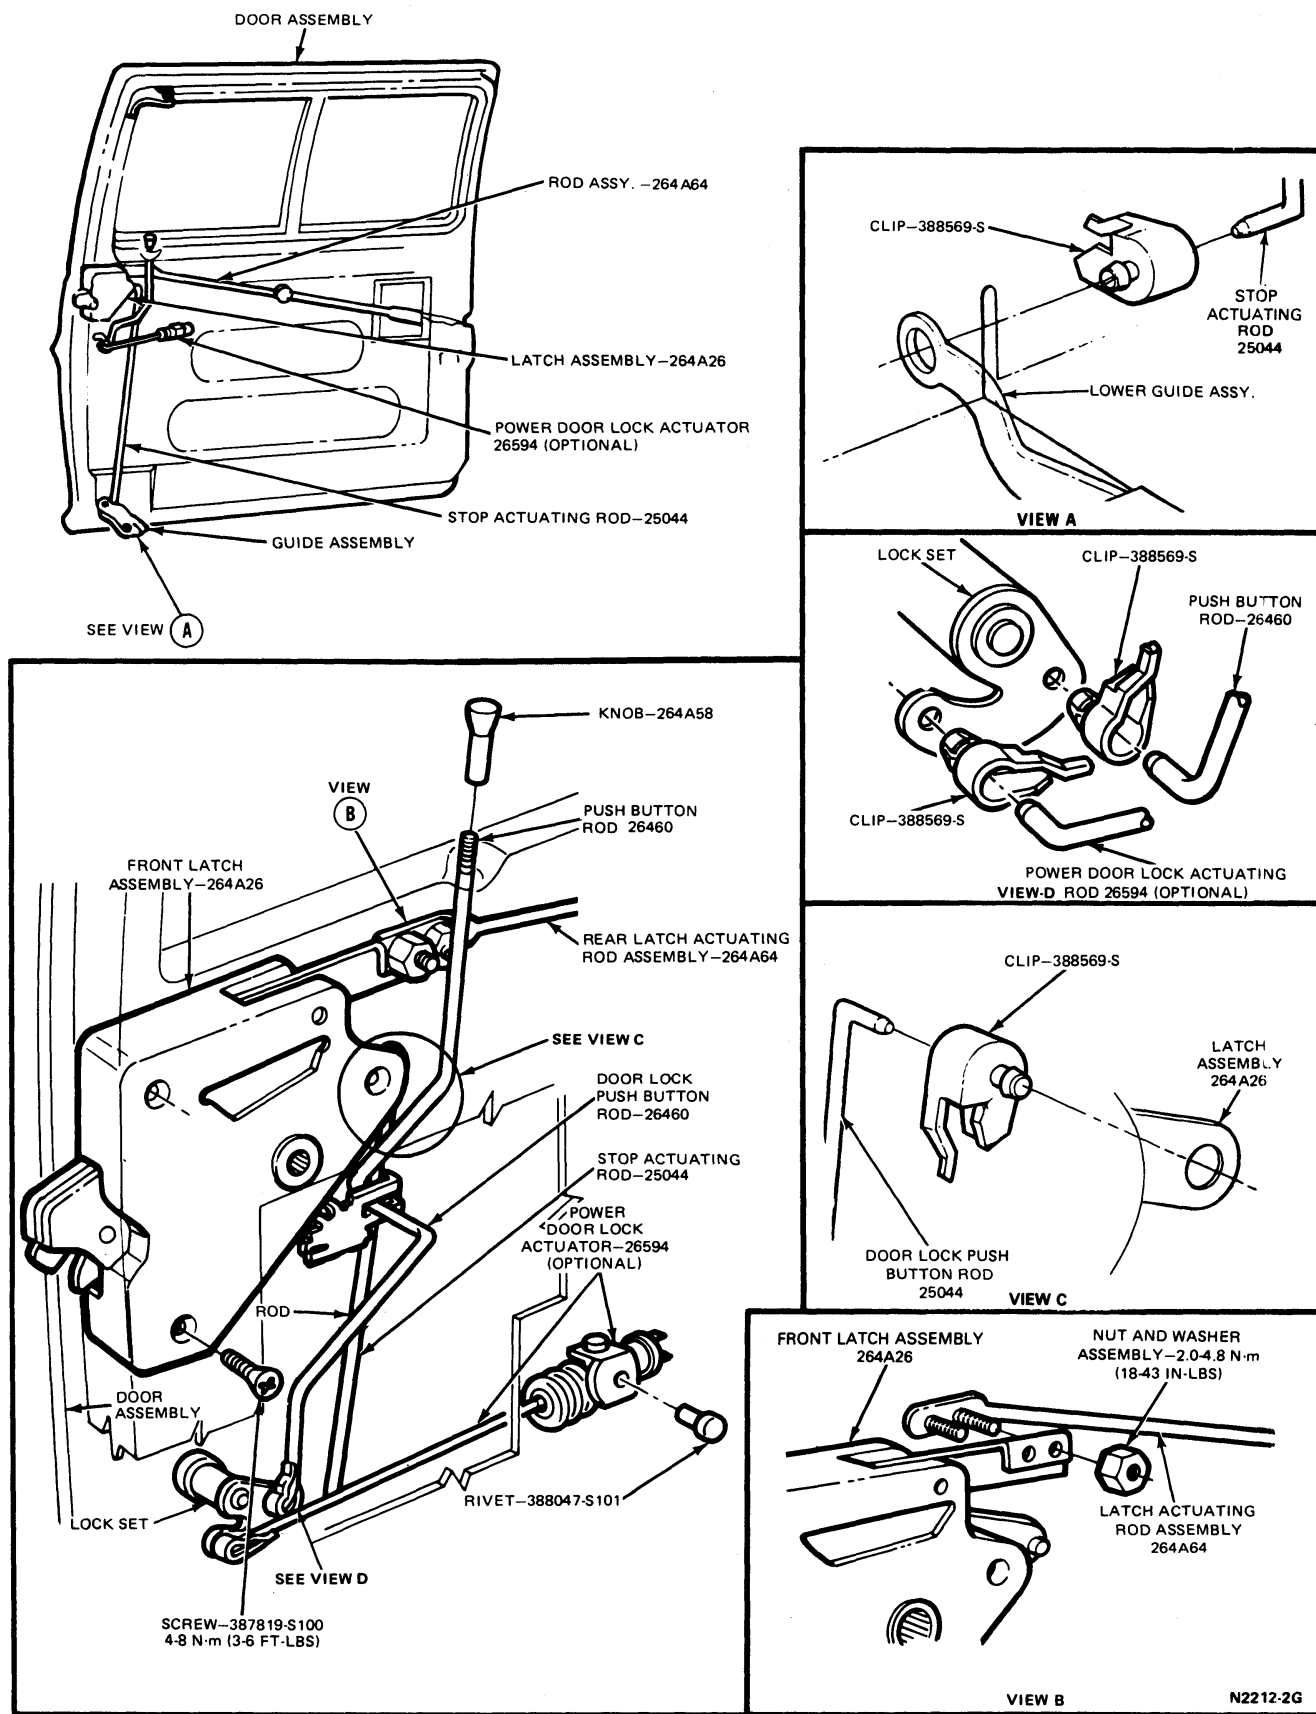

FIG. 4 Sliding Door—Latch and Rods—E-100—E-350
5. Remove the door lock push button rod from the lock cylinder and disengage it from the latch lever arm (Views C and D, and Main View Fig. 4).
6. Remove the stop actuating rod from the front latch (Main View, Fig. 4).